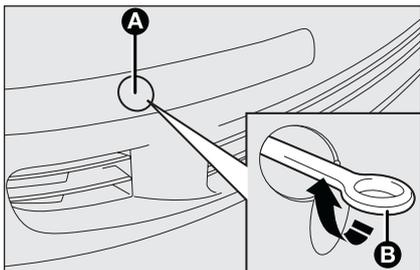

fig. 45
- take the tow hook **B**-fig. 45 from the support;